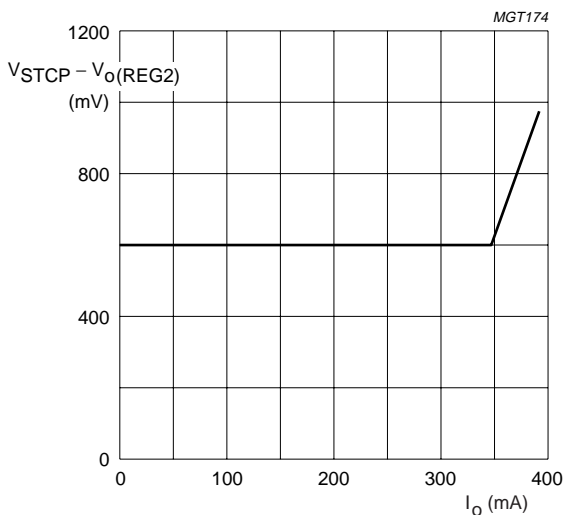

Fig.6 Dropout voltage of  $V_{\text{STCP}}$  as a function of the output current of regulator 2.
4. The dropout voltage of regulator 2 is the voltage difference between  $V_{STCP}$  and  $V_{o(REG2)}$  and depends on the load current (see Fig.6).